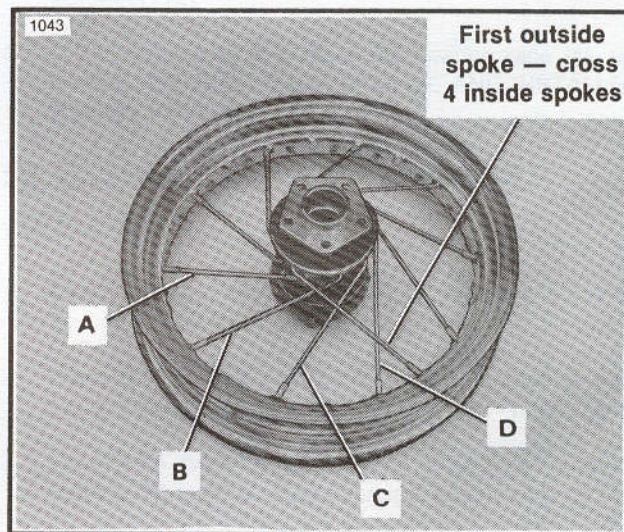

Figure 2-18. Cross - 4 Pattern
6. See Figure 2-18. Swing the outer spoke in the opposite direction crossing over four inner spokes, and secure the spoke (with a nipple screwed on approximately 3 turns) in the nearest hole angled towards it. Repeat with the remaining 9 upper flange outer spokes.